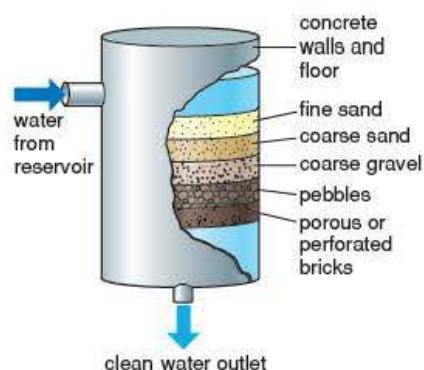

Figure 4.4 Water for our homes, schools and workplaces is filtered through layers of sand and gravel, which trap small particles.
- 2 As the water is needed, it is filtered through clean sand and gravel which trap smaller particles of mud and suspended solids (Figure 4.4).